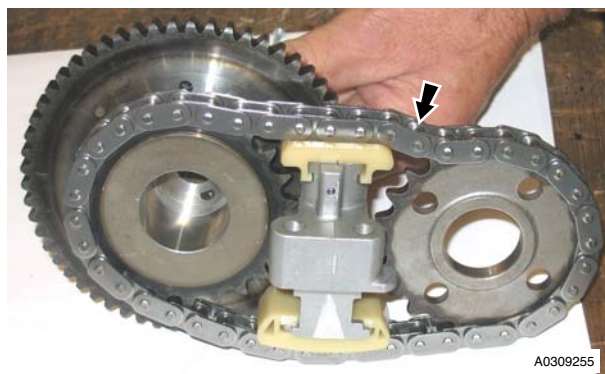

Figure 4
6. Remove secondary timing chain and tensioner from sprockets (refer to Figure 4).